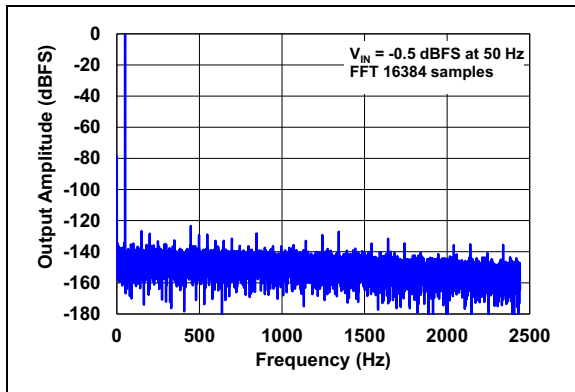

**FIGURE 1-1:** Serial Output Timing Diagram.
**Electrical Specifications:**  $DV_{DD} = 2.7\text{V}$  to  $3.6\text{V}$ ,  $T_A = -40^{\circ}\text{C}$  to  $+125^{\circ}\text{C}$ ,  $C_{LOAD} = 30\text{ pF}$ . See Figure 1-1.
Electrical Specifications: $DV_{DD} = 1.8V$ to $2.7V$ , $T_A = -40^{\circ}C$ to $+125^{\circ}C$ , $C_{LOAD} = 30$ pF. See Figure 1-1.